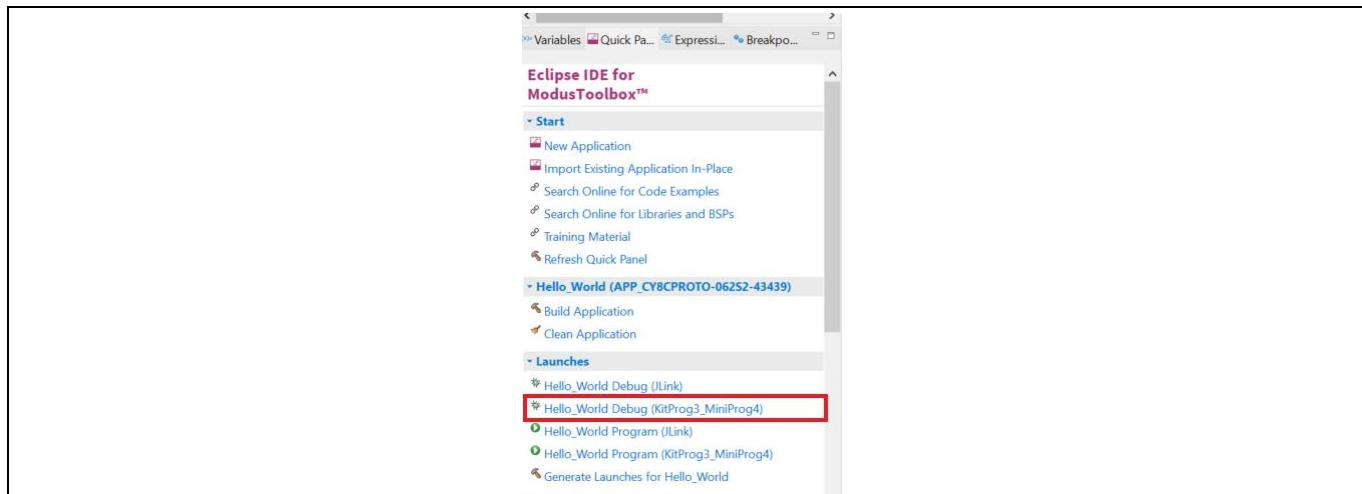

Figure 8 Debugging in ModusToolbox™
5. ModusToolbox™ has an integrated debugger. To debug a PSoC™ 6 MCU application, in the Project Explorer, select **<App_Name>** project. In the Quick Panel, scroll to the **Launches** section and click the **<App_Name> Debug (KitProg3_Miniprog4)** configuration as shown in **Figure 8**.